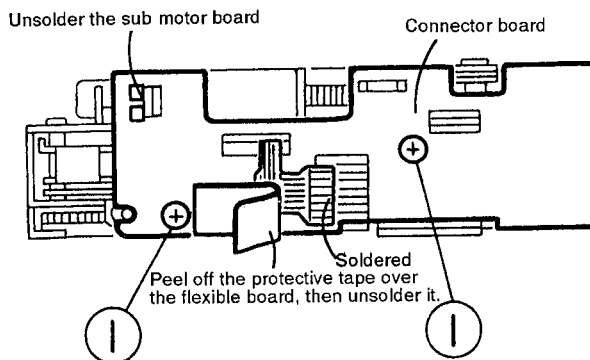

Fig. 4-6 (Viewed from the right side)
■ Connector board (See Fig. 4-6)
- 3) Remove two screws ① securing the connector board, then remove it taking care not to break the flexible board.